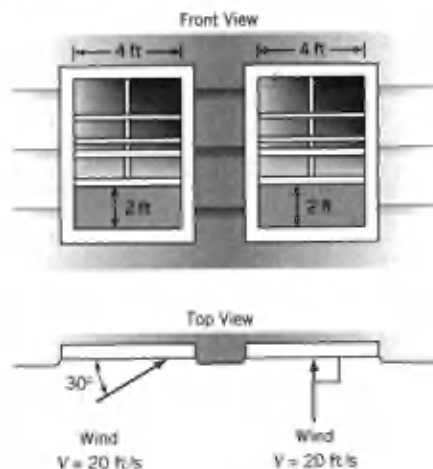

FIGURE P4.10R
4.10R (Flowrate) Air blows through two windows as indicated in Fig. P4.10R. Use Eq. 4.16 with  $b = 1/\rho$  to determine the volume flowrate ( $\text{ft}^3/\text{s}$ ) through each window. Explain the relationship between the two results you obtained.